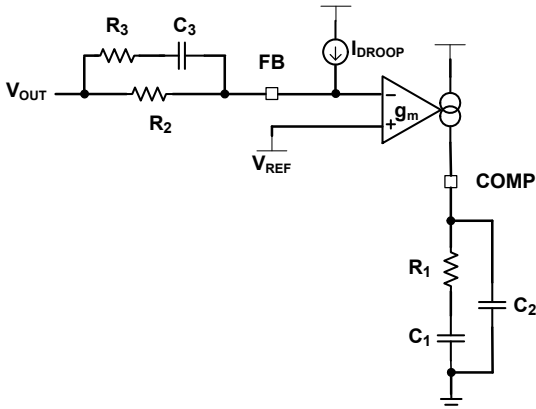

FIGURE 3. COMPENSATION ADJUSTMENT
11. Using a VRTT, load the part with a transient from 1A to I_{CCmax}, at a 300Hz rep rate, and monitor V_{OUT} on the scope. Trigger on the falling edge of V_{OUT} and adjust the compensation components as needed to fine tune the transient response. (See Figure 3)